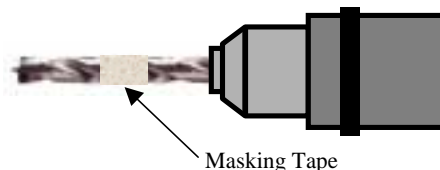

FIGURE 3
1. Clamp the wood block with the back facing upwards. Mark a depth of 2-1/8" on the 3/8" drill bit with masking tape (see Figure 3). *Measure the distance from the outside tips of the bit, not from the center tip.*